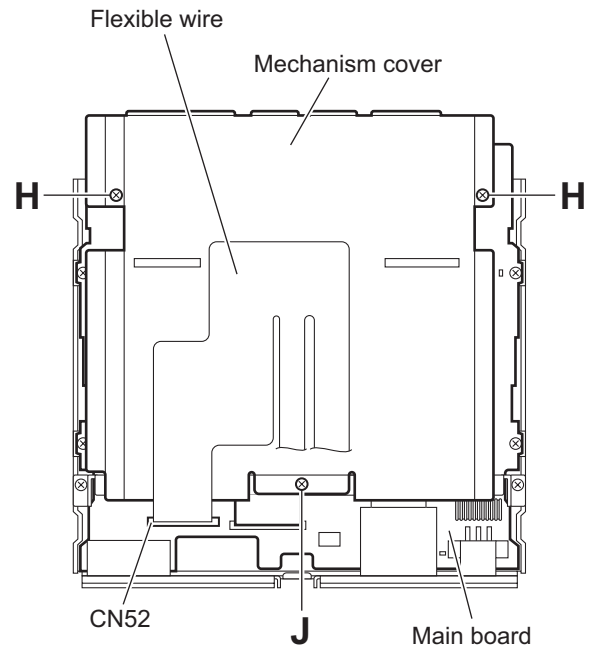

Fig.11
3.1.6 Removing the DVD mechanism assembly (See Figs.11 and 12)
- From the top side of the main body, release the lock of the connector **CN52** on the main board in an upward direction and disconnect the flexible wire. (See Fig.11.)
- Remove the two screws **H** and screw **J** attaching the mechanism cover. (See Fig.11.)